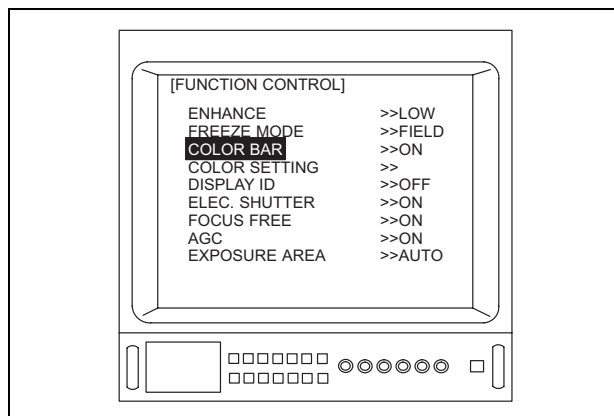

Figure 5.17
6. Depress the menu switches “◀” or “▶”, or the “↑/↓/←/→” key on the keyboard to change to “ON” (see Figure 5.17).